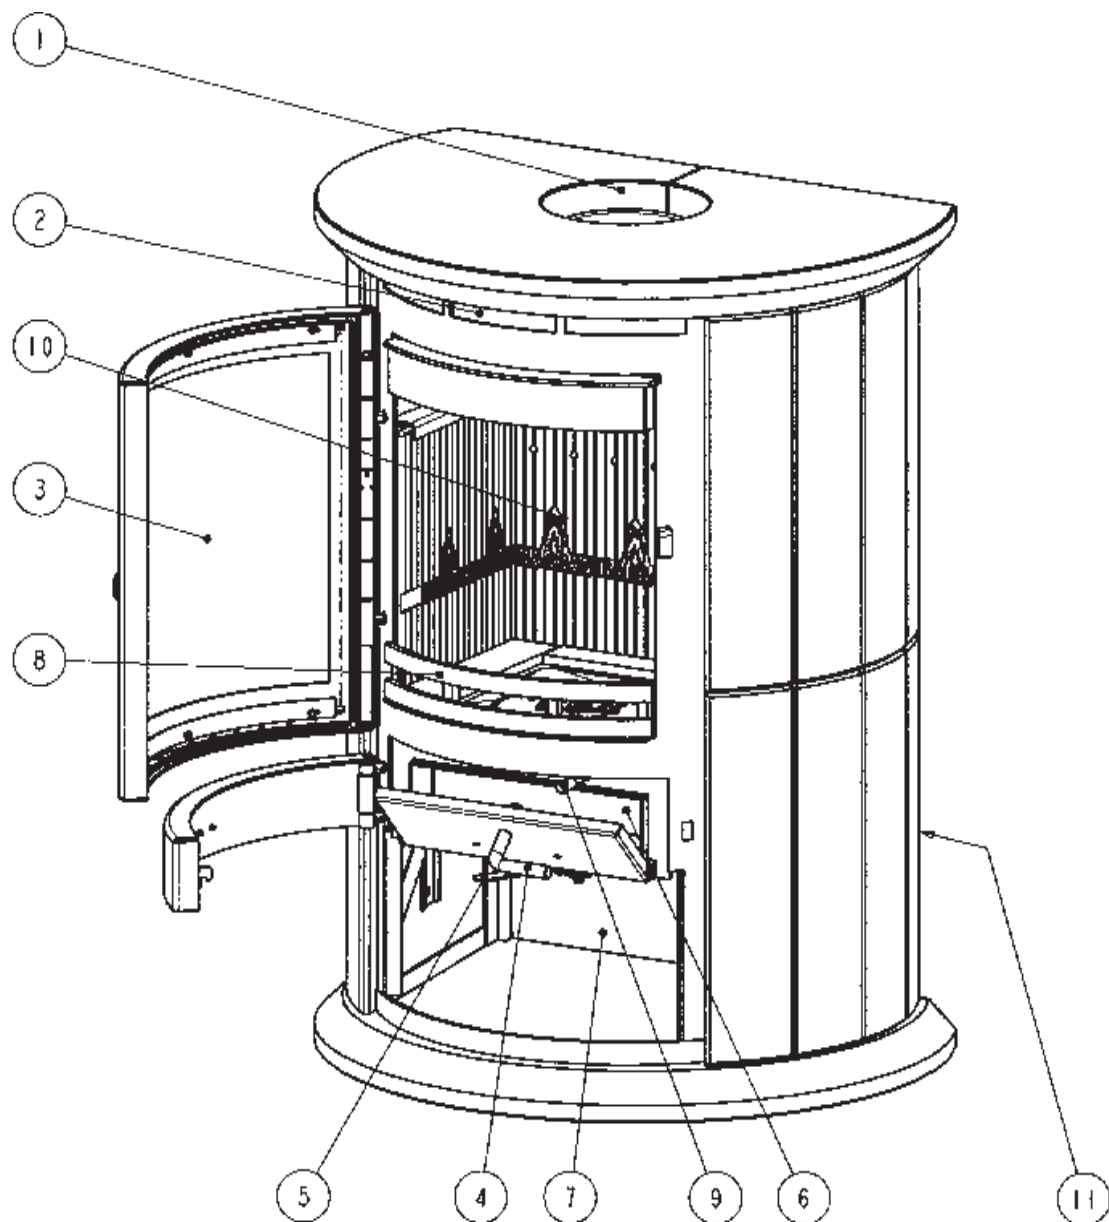

Figure 3: Operation
6.2. GETTING THE FIRE GOING (Figure 3)